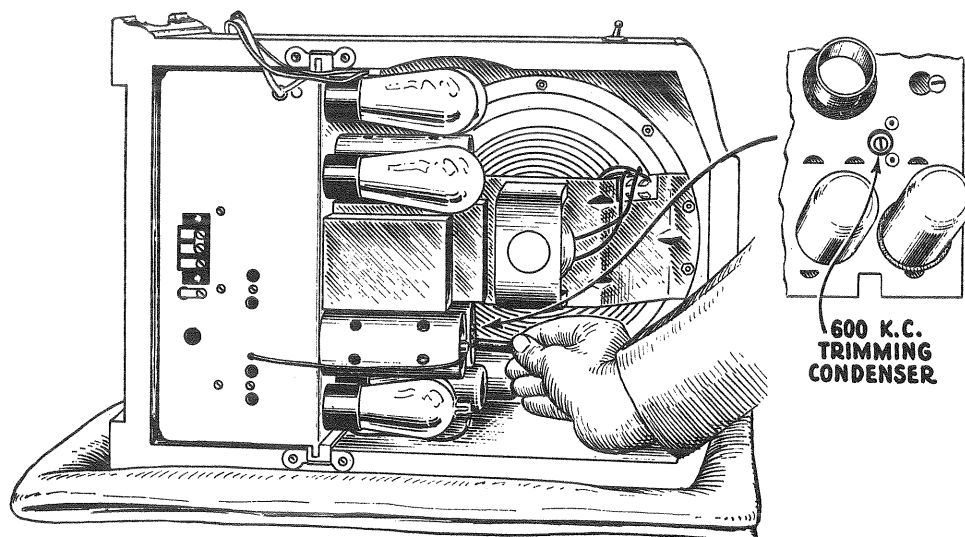

Figure 9—Adjusting 600 K. C. Oscillator Trimming Condensers
- (f) Set the oscillator at 600 K. C. Tune in this signal with the receiver and adjust for a deflection in the output meter. Now adjust the 600 K. C. series condenser, Figure 9, until maximum output has been obtained. Rock the gang condenser back and forth while making this adjustment. A suitable non-metallic screw driver is listed in Part I.